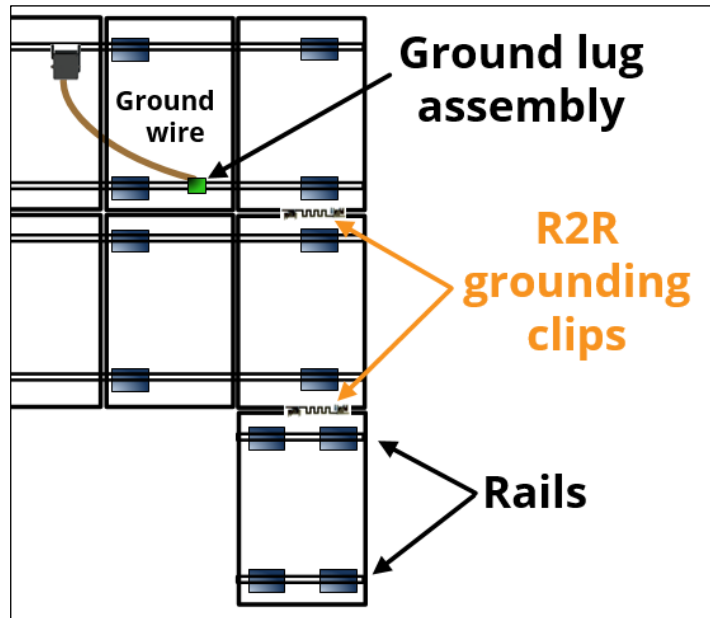

Fig. 36
- Install another R2R grounding clip (Fig. 36; refer to Section 5.6.1).